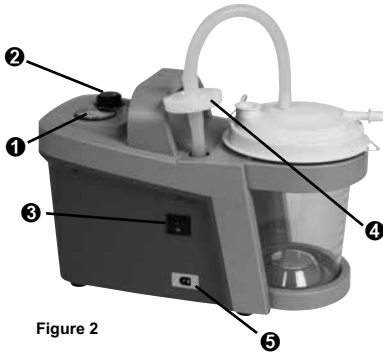
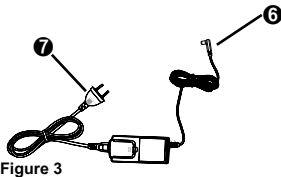
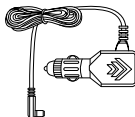

Figure 2
Figure 3
Figure 3a
Connect the low voltage cable of the power supply (Figure 3, ❹) to the low voltage connection of the device (Figure 2, ❺). Plug the mains plug of the power supply (Figure 3, ❹) into the wall socket.
Connect the low voltage connection of the device (Figure 2, ❹) to the cigarette lighter socket of the car, using the special car cable (Figure 3a).